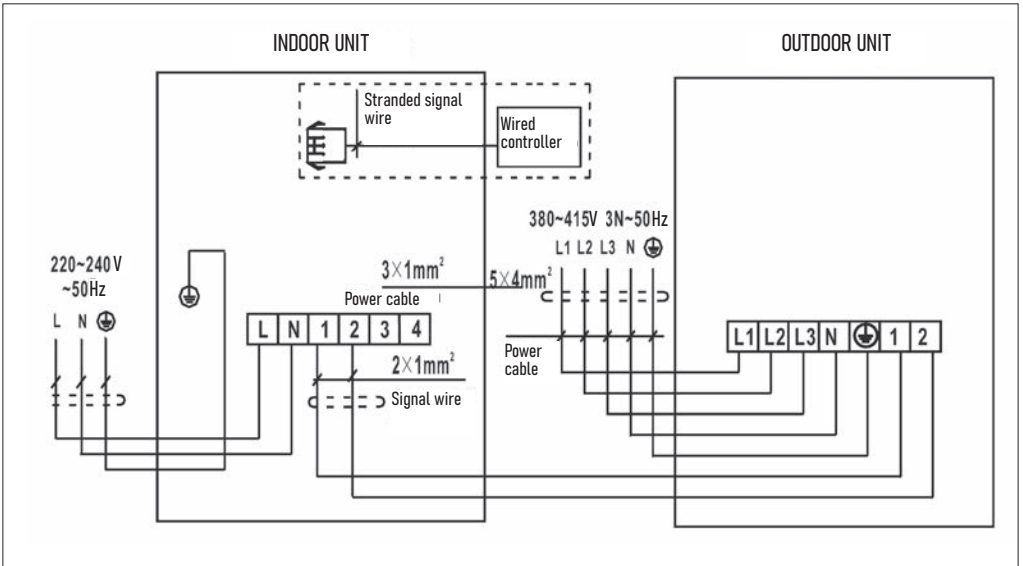

Fig. 7
- Strip the cable end of insulation and install a lug on the bare core, compressing it with tongs. Connect the thus prepared cable according to the diagram (see Fig. 7 of the Appendix).